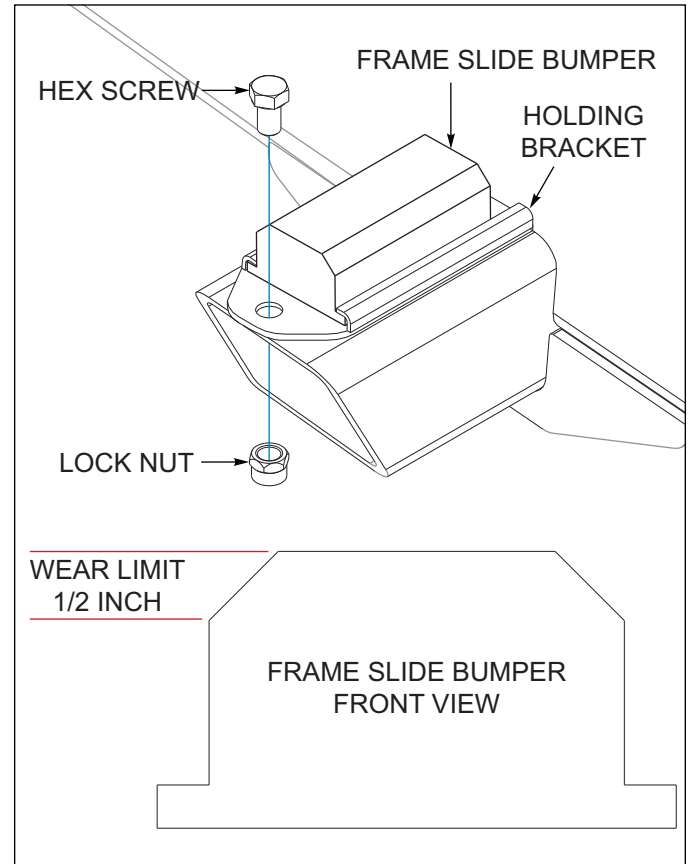

Figure 4-5: Slide Bumper Wear Limit
2. Remove the lock nut and remove the hex screw. **See Figure 4-5.**
3. Inspect Frame Slide Bumper for bends, breaks, burrs, chips, cracks, dents, pits, wear, distortion, signs of fatigued or brittle and visual defects. Verify the bumper is not worn more than an 1/2 inch. Use the 45 degree chamfers on each side of the bumper as reference, **See Figure 4-5.** Replace if defective, **See Repair Parts on Page 4-3.**
2. Push frame slide bumper into the holding bracket, **See Figure 4-5.**